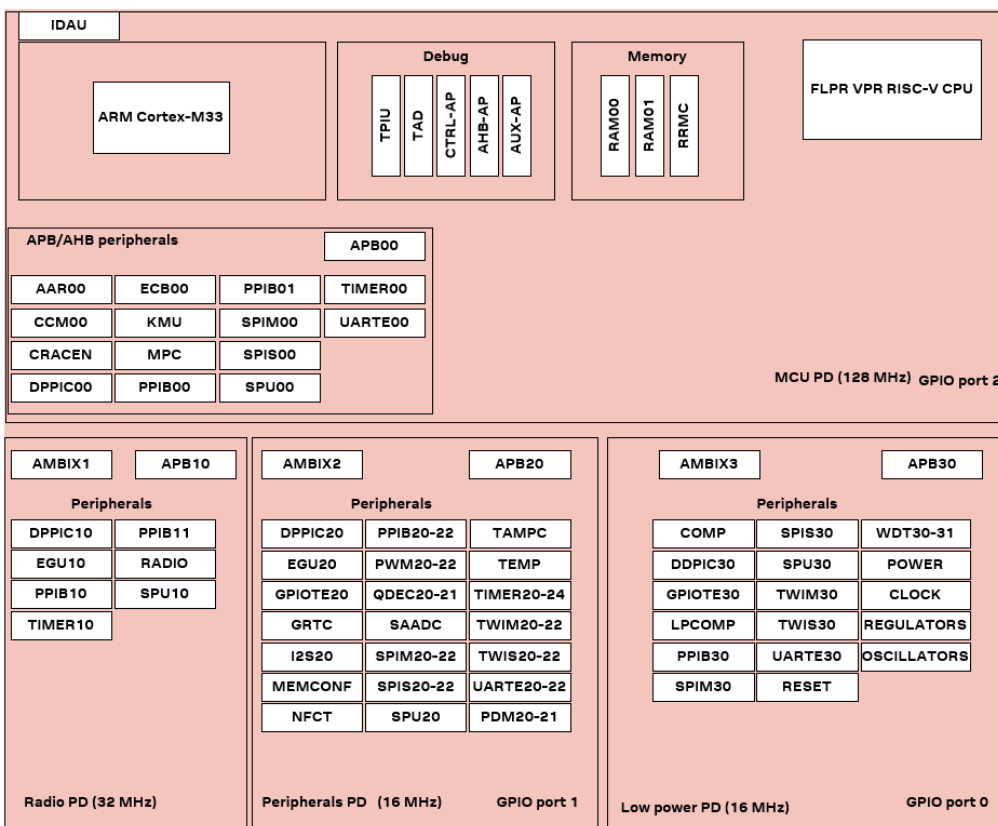

Figure 2: Power domains
ANNA-B50 series features multiple Power Domains (PD) for low-power operation, including fast MCU and lower speed domains. Figure 2 shows the power domains supplying the integrated ARM Cortex processor, peripherals, and other functional units supported in ANNA-B50 modules, which feature:
Three of the power domains have their own GPIO ports. The GPIO pins can be used by peripherals in the same power domain. Selected port 2 pins, **P2.00-P2.10**, can be used for some serial interfaces in the peripheral domain SPIM, SPIS, and UARTE, as described in Error! Reference source not found. For information about each instance's power domain and the related GPIOs, see Figure 2 and Table 6. Refer to nRF54L15 datasheet [4] for more information, and the interconnections between different power domains.
The 4-wire UART interface supports hardware flow control with baud rates up to 4 Mbps. Up to five instances can be defined. For information about each instance, power domain and the related GPIOs, see Figure 2 and Table 6.